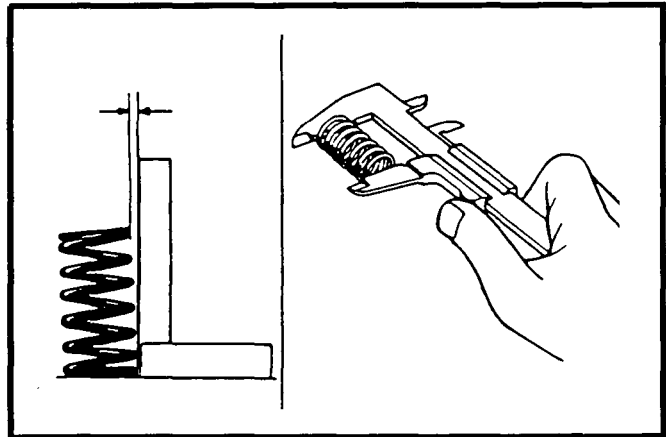

Figure 39.
7. Check the valve spring squareness with a square and measure the free length. See Figure 39.